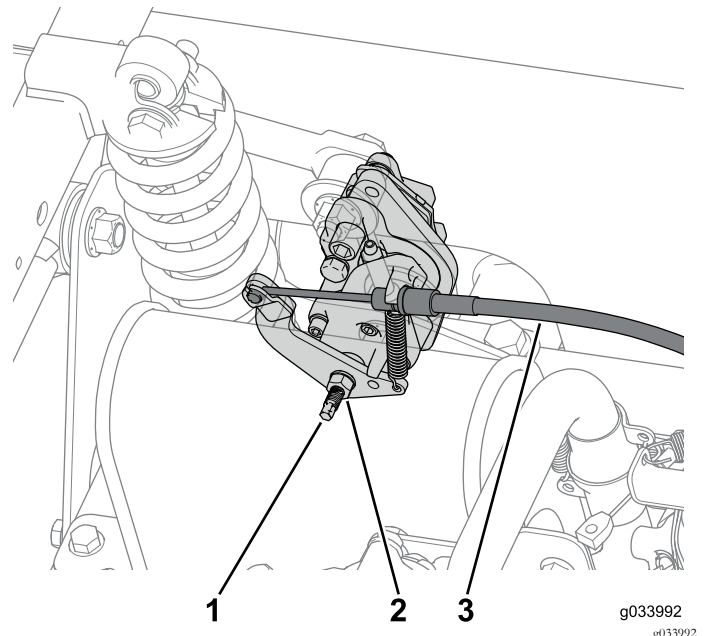

Figure 61
- Loosen the jam nut and then turn the adjustment screw 2 turns counter clockwise on both rear-brake calipers (Figure 61).
- Disconnect the parking-brake cable connected to each brake caliper (Figure 61).